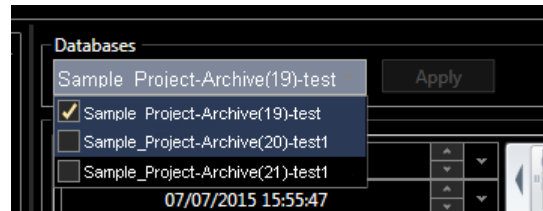

FIGURE 14-17 SELECT DATABASES
- **Databases:** Select the database(s) to query from the available archive databases loaded in the project that are listed in this dropdown and checking/unchecking the associated check box (see Figure 14-17).